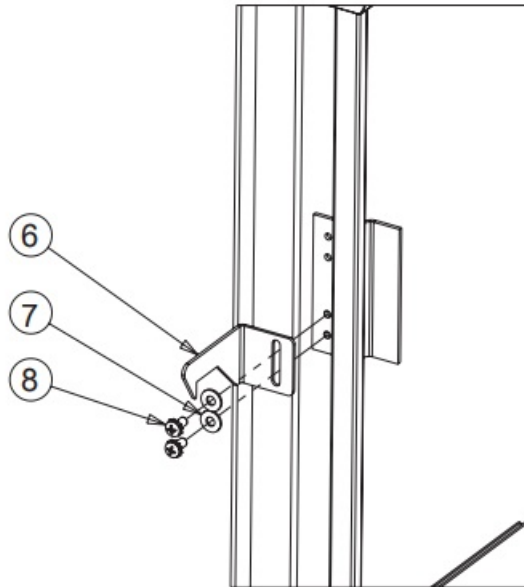

Figure 6
10. Referring to Figure 6, install the control enclosure adjustable door hook (Item 6) onto the door of the control enclosure using two 10–32 screws (Item 8) and #10 flat washers (Item 7). Initially position the hook approximately two inches from the top of the door bracket.